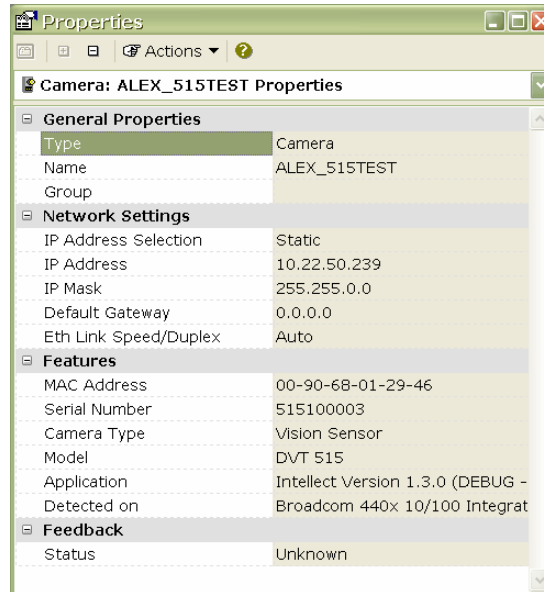

Figure 7: Properties Window
- Highlight the DVT Vision Sensor with the appropriate serial number. In the properties window on the right side of the screen is where you can edit the Name, IP Address and IP Mask. Set the IP address to be same as your computer's IP address except for the last number. For instance, Computer: 192.168.1.113; DVT Vision Sensor: 192.168.1.32. If you are not sure about which IP address to use you should ask your network administrator. See Figure 7.